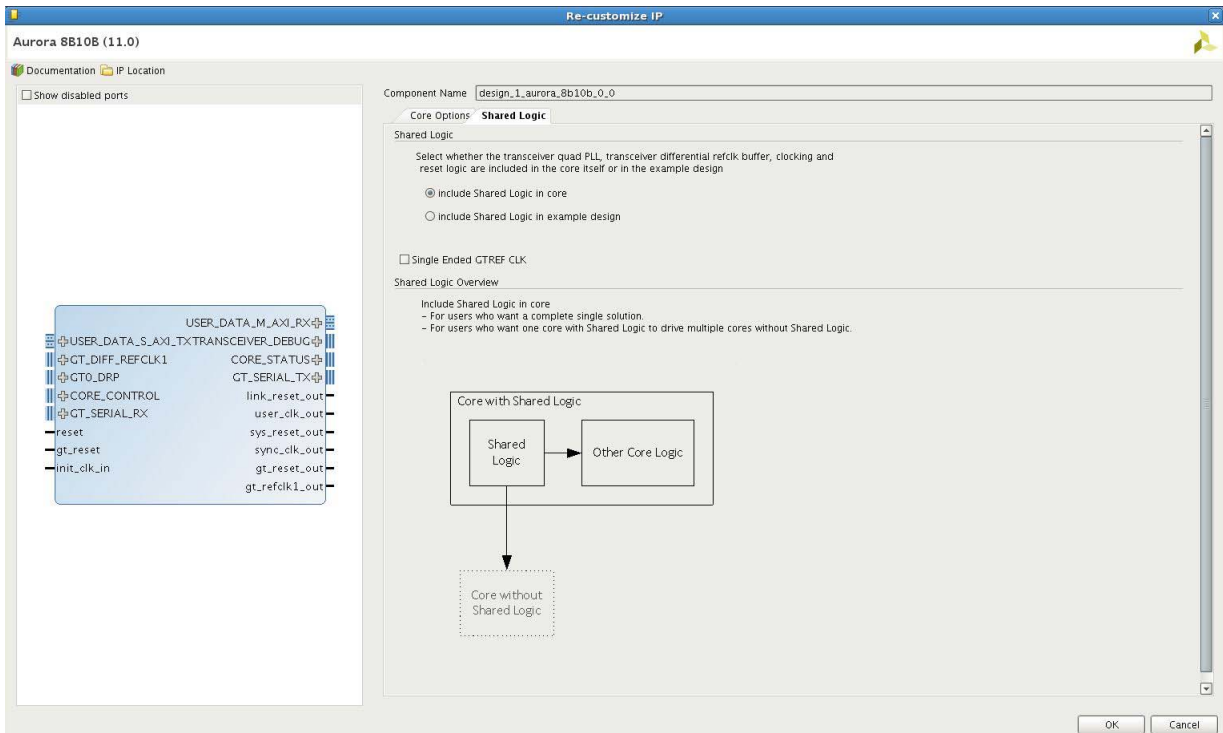

Figure 5-5: Shared Logic
- Click the **Shared Logic** tab (see Figure 5-5).